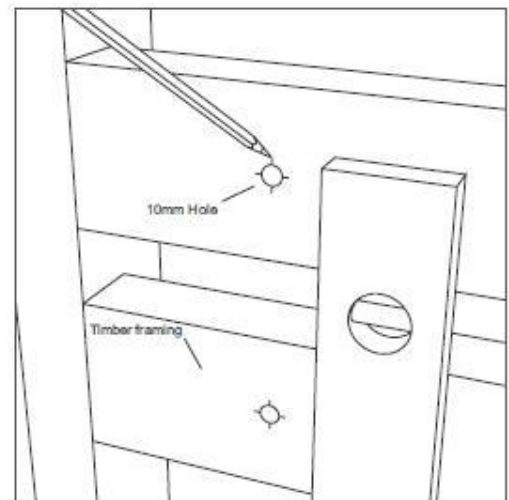

Fig 2.0
- Use a level to make sure that these holes are plumb. see Fig 2.0 (prev page.)